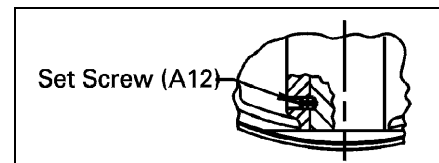

Figure 6—Lower Set Screw Detail 18" & 20"
- On sizes 18 and 20", align and center the flat on the shaft with the tapped hole in the disc. Insert the pin (A4) into the mating hole in the disc (A2) so that the flat on the pin is centered on the flat on the shaft. Tap the pin firmly into position with a hammer and punch until the hammer bounces back when the pin is struck. Apply one bead of Loctite 243 to the threads of the set screw (A10) and one bead along half the depth of the threads in the tapped hole above the pin. Tighten the set screw to 125 ± 5 ft. lbs. See Figure 5. Apply one bead of Loctite 243 to the threads of set screw (A12) and one bead along half the depth of the threads in the threaded hole near the bottom of the disc (A2). Thread the set screw into the disc and into the blind hole in the lower shaft (A11) and tighten to 13 ± 2 ft. lbs. See Figure 6.